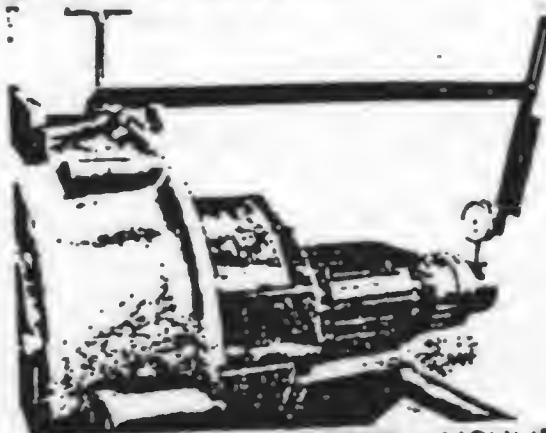

FIG. 41 CHECKING ROTOR ALIGNMENT WITH DIAL GAUGE
(1) Reassembly is accomplished by a reversal of the operation used in disassembly. Use care. Make sure that all contact surfaces between parts are clean before fitting together. Tighten all nuts, screws and connections securely. Use lockwashers in all places where they were used originally, preferable new lockwashers.
(2) After tightening the cap screws which attach the rotor drive flange to the flywheel, use dial gauge, (Fig. 41), and check the alignment of the rotor. The run-out should not exceed a total of .010". To correct